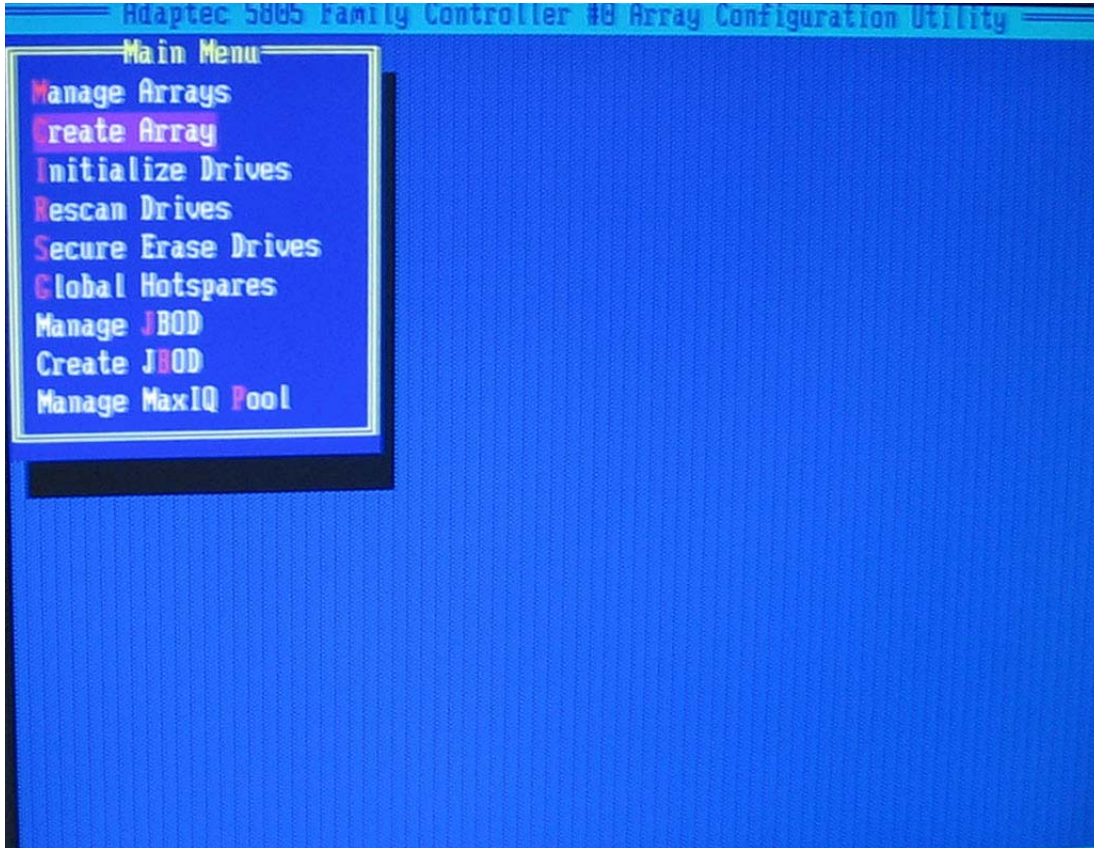

Figure 7-6 Create Array
8. On the **ACU** screen select **Create Array** from the **Main Menu** and press **Enter**. (Figure 7-6).